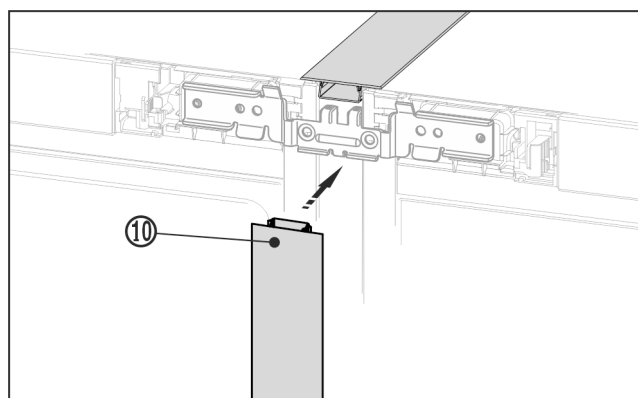

Fig. 22 *
- ▶ On the front press the long cover strip *Fig. 22 (10)* into the vertical gap. Ensure that the strip rests on the connecting plate.*